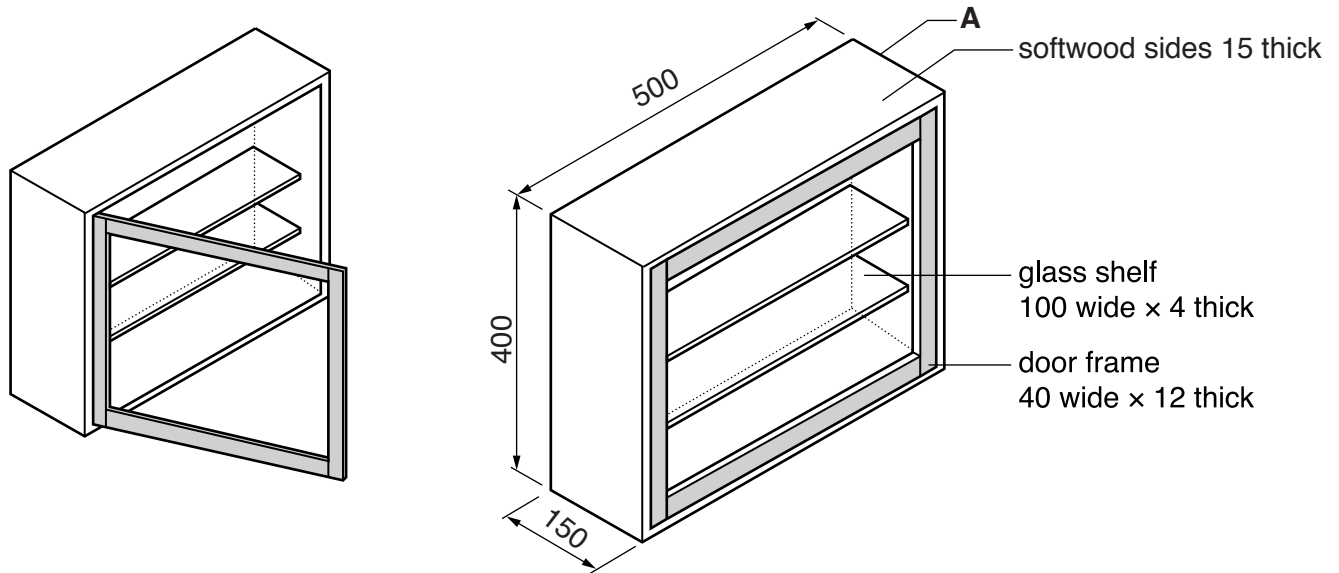

Fig. 7
- 11** Fig. 7 shows views of an incomplete design for a wall-mounted cabinet.
- (c) Sketch and name a permanent joint that could be used at corner **A** in Fig. 7.